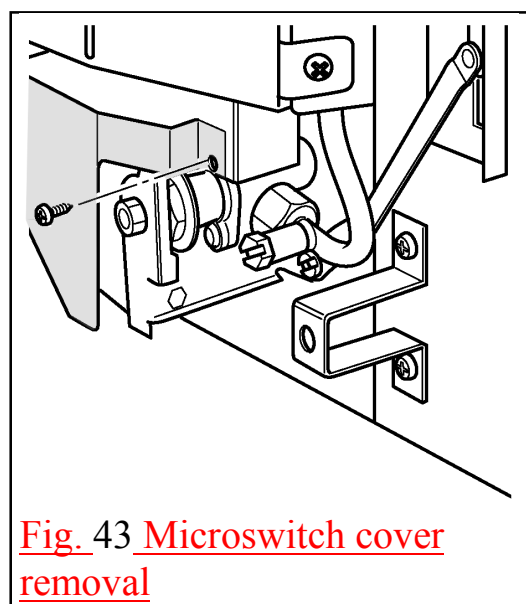

Fig. 43 Microswitch cover removal
See figures 43 & 44.
2. Detach the microswitch cover by removing one screw and pulling clear of the location lug. See figure 43.
See figures 43, 44 & 45.